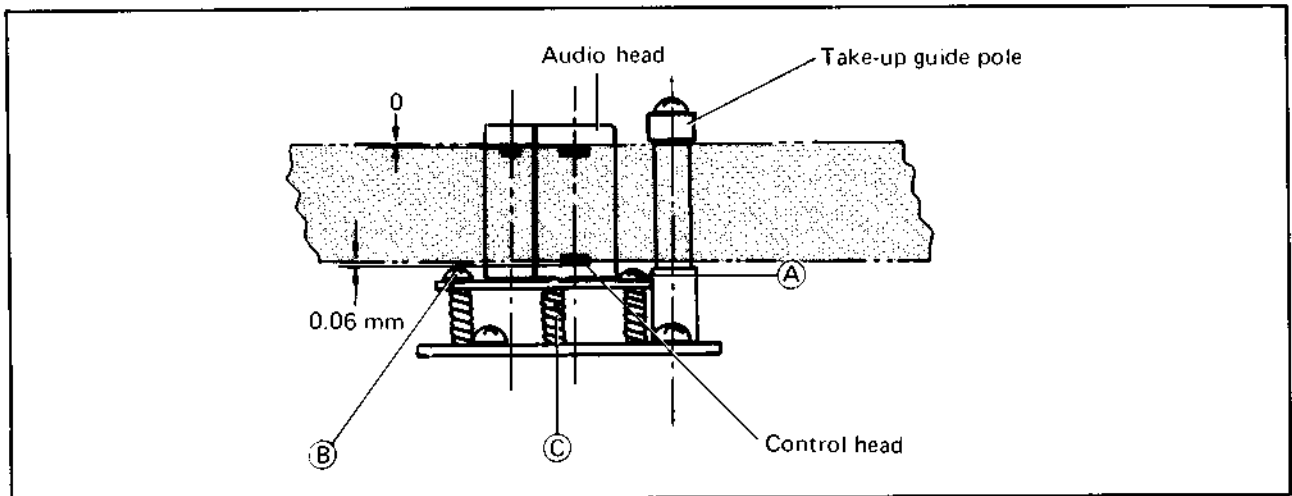

Fig. 5-25
2. If an unsatisfactory condition is noted by the above check, adjust the three screws (A), (B) and (C) by turning in small increments. Do not adjust the guide poles. The normal tape travel is shown in Fig. 5-25.
5. Adjust screws (A), (B) and (C) for maximum playback signal at TP-19.
6. After adjustment, verify the head height as shown in Fig. 5-25. Also, check for smooth tape travel.